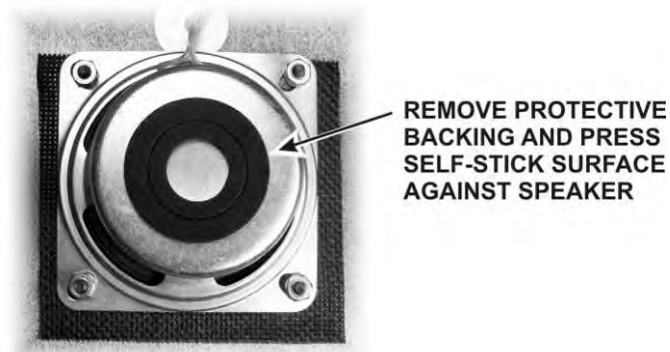

Figure 50. Attaching the Speaker Pad.
- ❑ Remove the covering over the self-adhesive side of the foam pad and press the adhesive side against the speaker magnetic shield (see Figure 50). The pad will compress between the loudspeaker and the top of the KRX3A enclosure when the cover is installed.